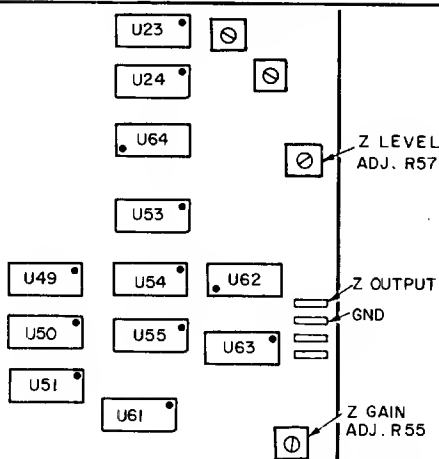
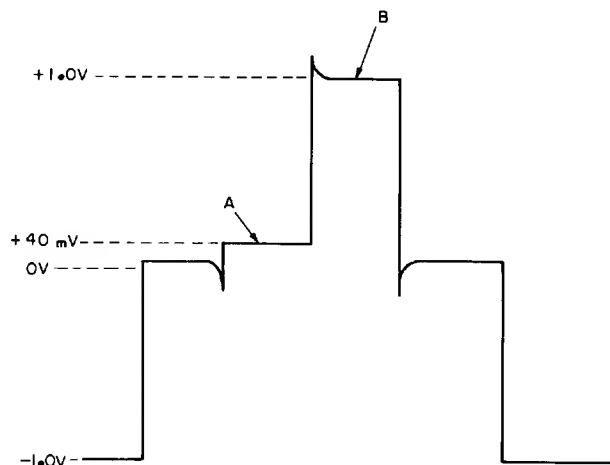

Figure 5-4. Z-axis Output and Adjustment Locations on Control Board
Figure 5-5. Z-axis Adjustment Waveform
- e. Connect oscilloscope probe to Z-axis output on Control Board (figure 5-4).
- g. Set 1350A rear-panel Z-AXIS control fully clockwise (CW).
- i. Set Z LEVEL ADJ. A1R57 (see figure 5-4) so that the portion of the waveform marked "A" in figure 5-5 is at +40 mV.
- j. Set Z GAIN LIMIT ADJ. A1R55 (see figure 5-4) so that the portion of the waveform marked "B" in figure 5-5 is at +1.0 V.